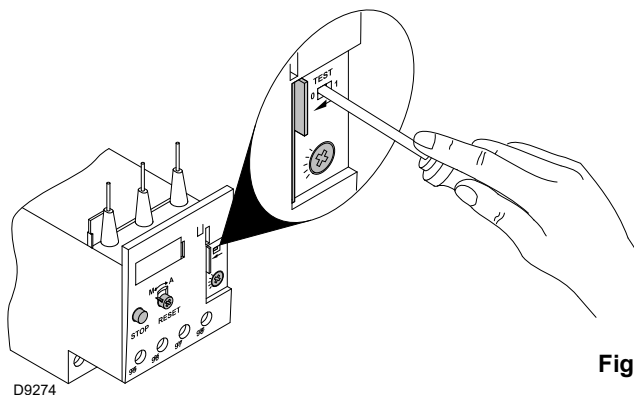

Fig. 39
- To test the thermal relay, insert a screwdriver in the window **“TEST”** (Fig. 39) and move it in the sense of the arrow (towards right).